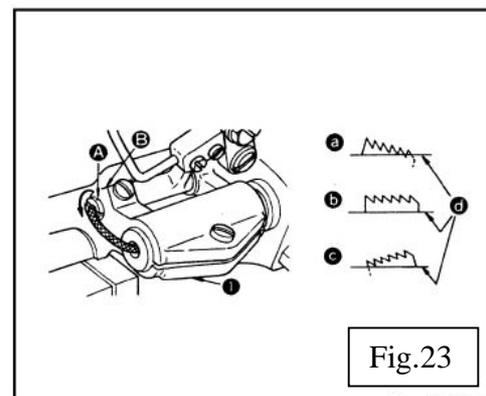

Fig.23
- a) The standard tilt of the feed dog is obtained when marker dot (A) on the feed bar shaft is aligned with marker dot (B) on feed rocker (1). (Fig.23)